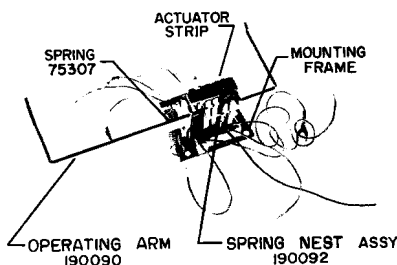

FIGURE 3. TYPICAL CRADLE SWITCH
- 6.01 The various parts of the cradle switch are identified in Figure 3.